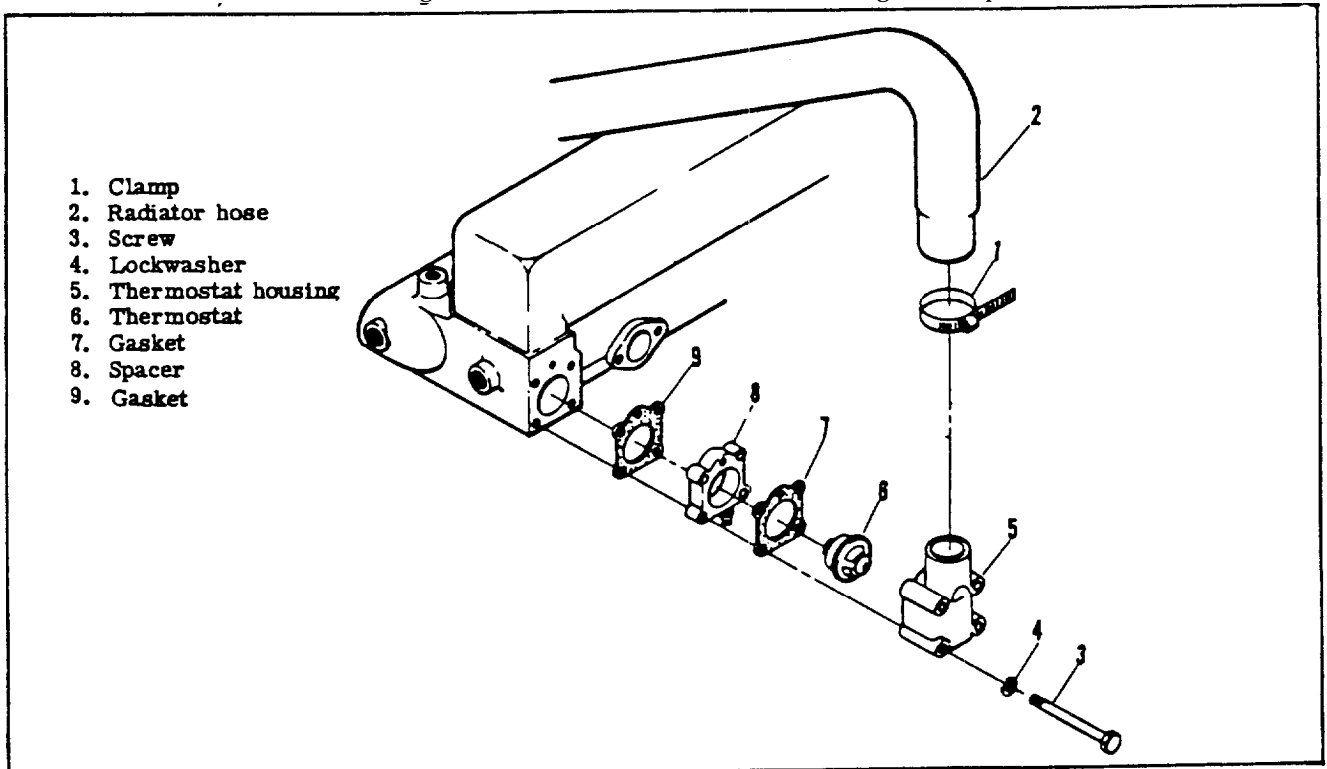

Figure 3-26. Coolant Thermostat, Removal and Installation
- (1) Remove left side fan guard (paragraph 3-31b. (3)).
- (2) Refer to paragraph 3-31 and drain the radiator.
- (3) Refer to paragraph 3-70 and remove the coolant temperature transmitter.
- (4) Loosen clamp (1, figure 3-26) and remove radiator hose (2).
- (5) Remove screws (3) and lockwashers (4) to remove thermostat housing (5), thermostat (6) gasket (7), spacer (8), and gasket (9).